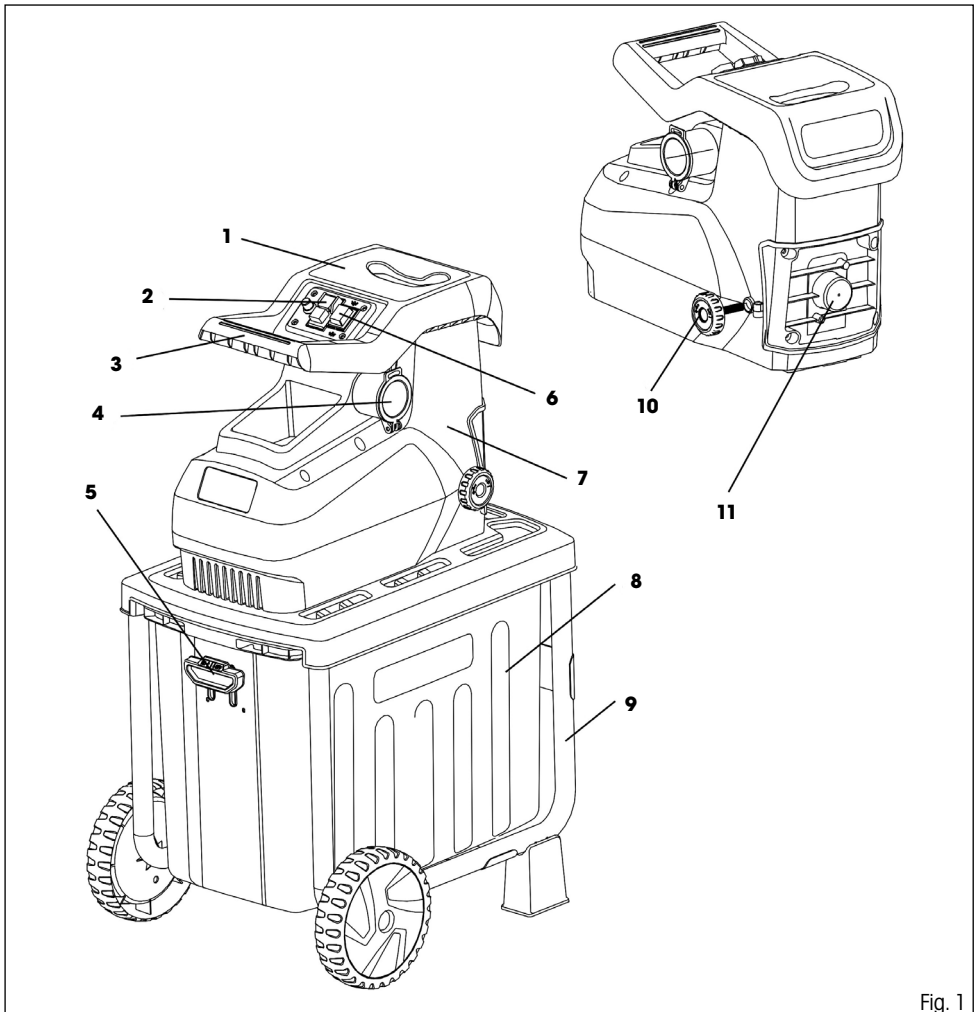

Fig. 1
### Description of the machine (see Fig. 1)
- ✿ For safety reasons, the handle of the collection box (Fig. 1, point 5) is equipped with a safety lock.
### Cutting roller cover (Fig. 1, point 11)